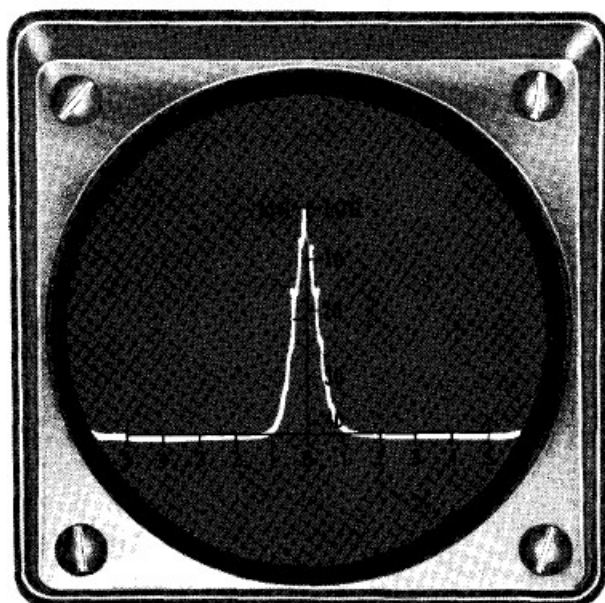

Figure 23
- NOTE: Because of the narrow sweep width and slow sweep rate with the SWEEP WIDTH control at the 10 kHz position, the pip may appear wider than it did before. Also, depending on the signal source, there may be some hum causing the pip to have a ripple effect (see Figure 23).